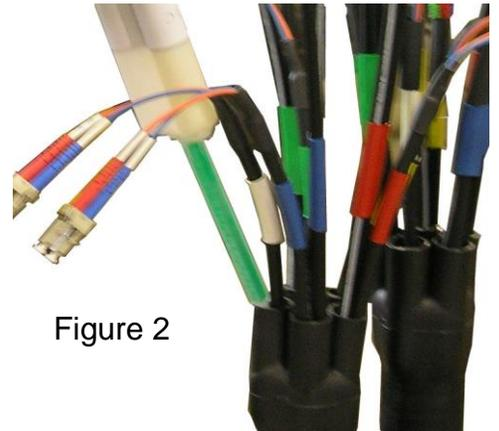

Figure 2
- b) Dispense urethane sealant into the finger opening with the single cable only. See boot shrink figure 2